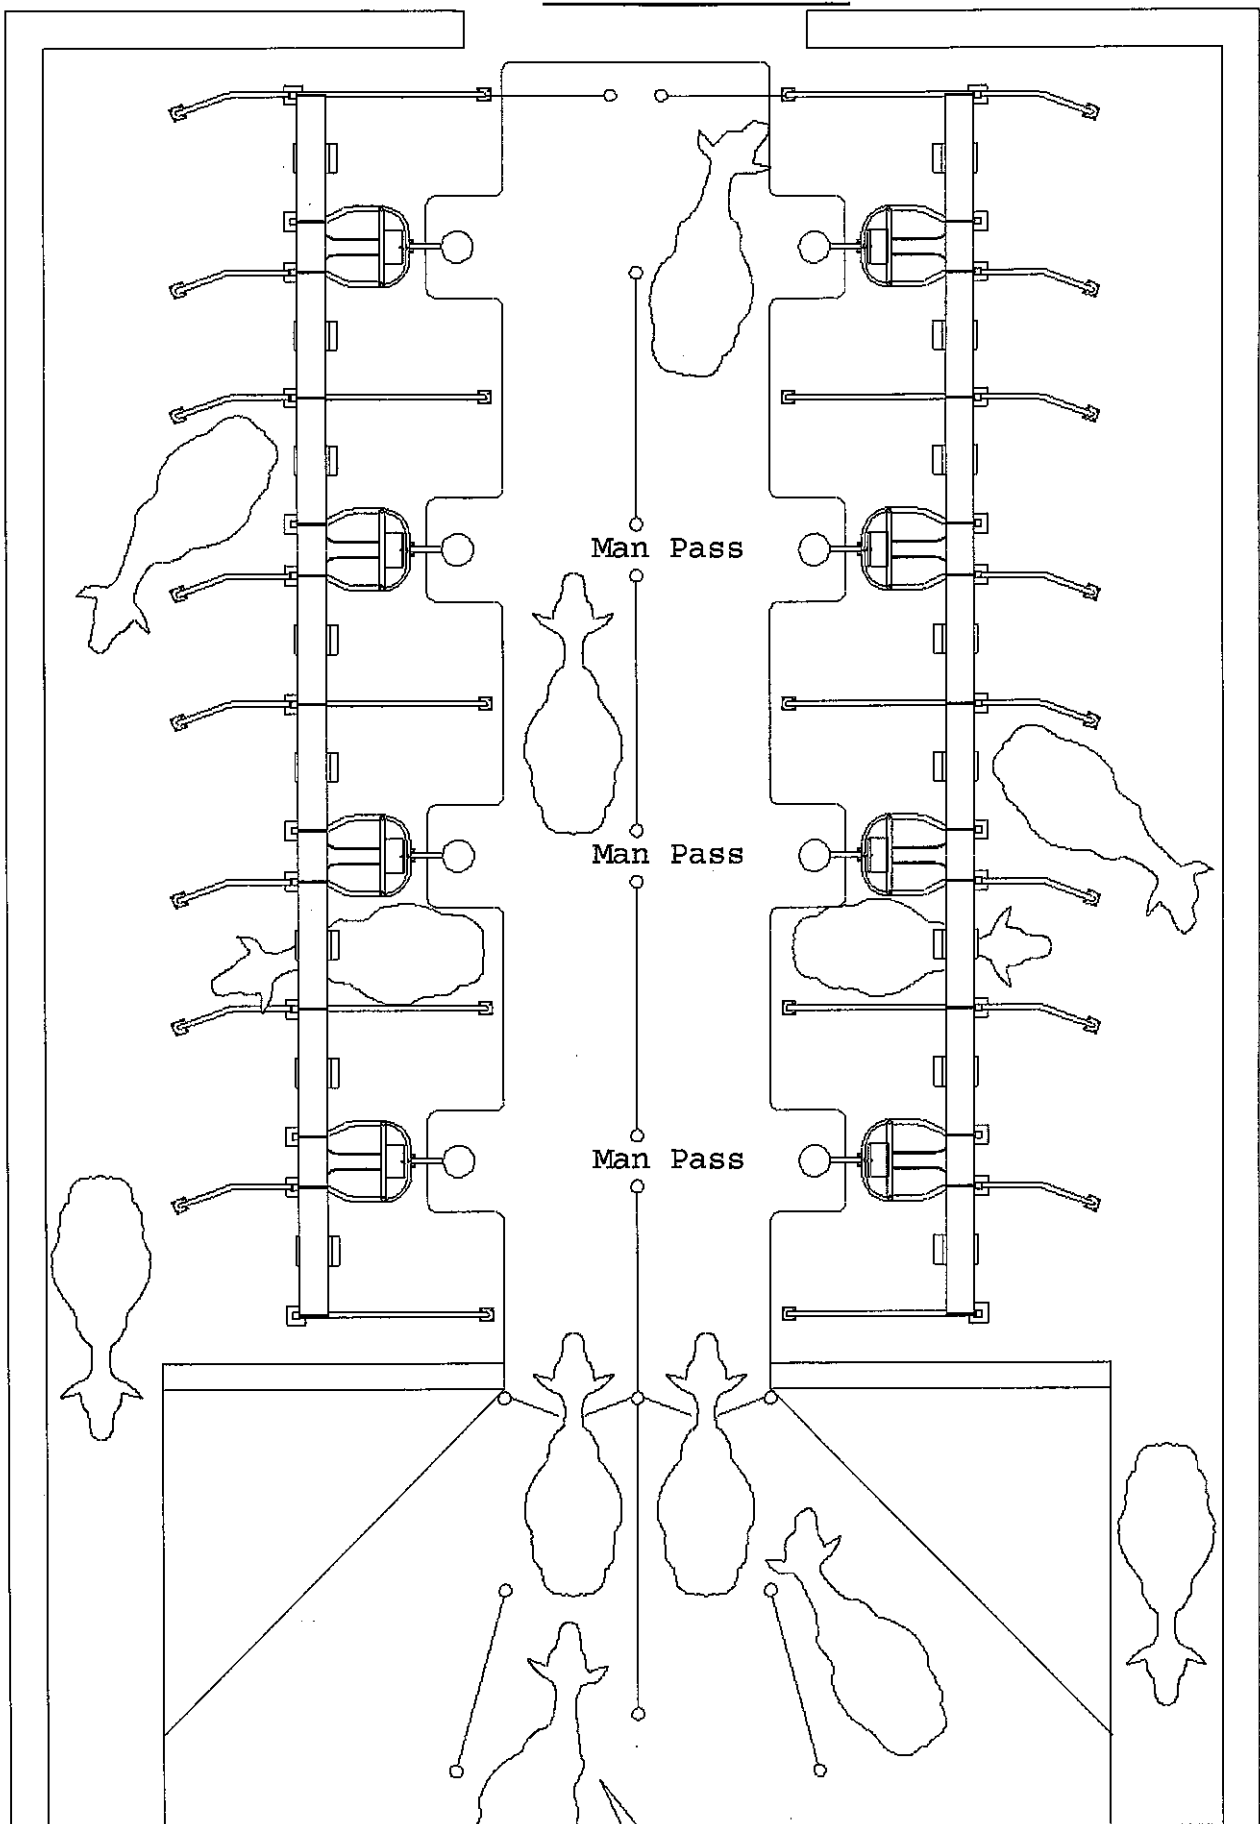

Figure 8.
**Example 3:** Figure 8 shows 16 stalls configured in two rows(double eight) installed along the length of the barn. Cows exit on each side of the parlor where there is a return alley along each side of the holding area.